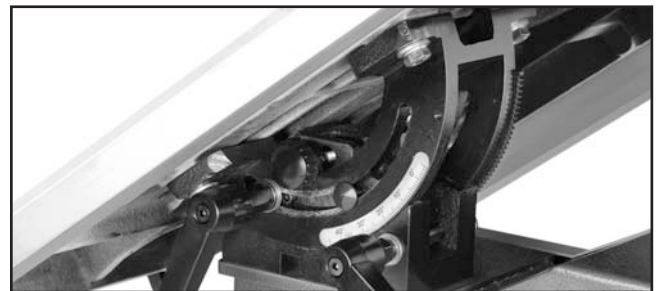

Figure 9. Trunnion lubrication location.
3. Apply a thin coat of light all purpose grease to the trunnions (see **Figure 9**).